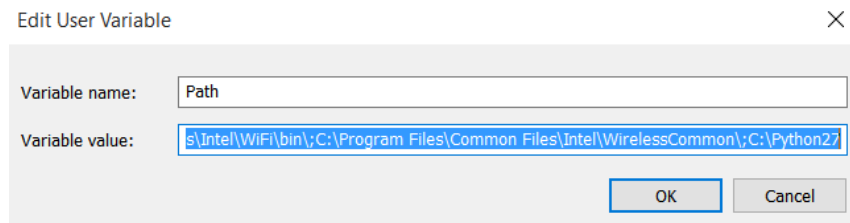

Figure 3: Edit User Variable Dialog Box
- In the user variables section, select and edit “Path”. If no Path variable exists, create a new variable named Path. The selection is highlighted in Figure 3.